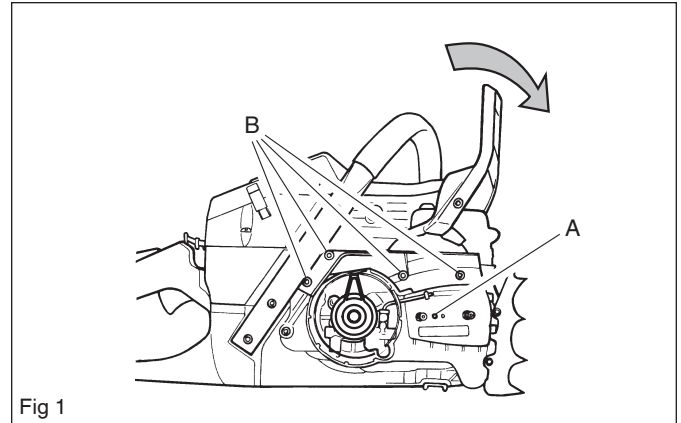

Fig 1
3. Push the hand guard forward so that the chain brake is engaged. See fig. 1.
5. Remove the chain guide-plate (A). See fig. 1.